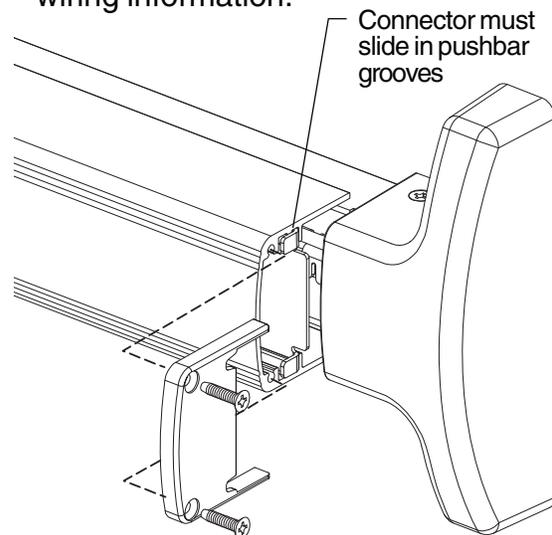

Figure 7
- 7** Reinstall pushbar endcap (Figure 7). See "RX Switch Wiring" on back cover for wiring information.